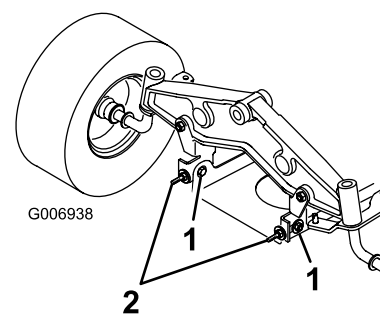

Figure 51
10. Slightly loosen the front pivot plate mounting bolts (Figure 51).
11. Rotate the locknuts on the eyebolts to change the adjustment (Figure 51).
12. After adjusting both of the eyebolt locknuts evenly, check the front-to-rear slope again. Continue adjusting the eyebolts until the front blade tip is 0 to 3/8 inch (0 to 9 mm) lower than the rear blade tip (Figure 51).
13. When the front-to-rear slope is correct, tighten the pivot plate mounting bolts (Figure 51).